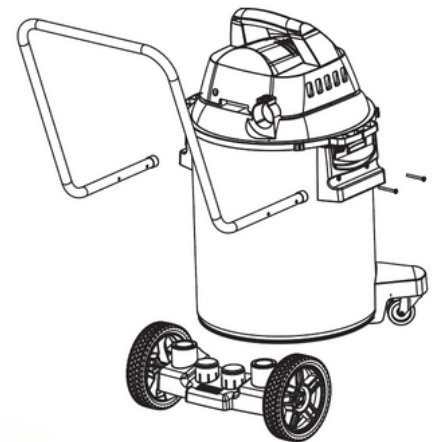

Fig. 5
1. Remove the screws from the bracket handle indicated in the image. (Fig. 5)